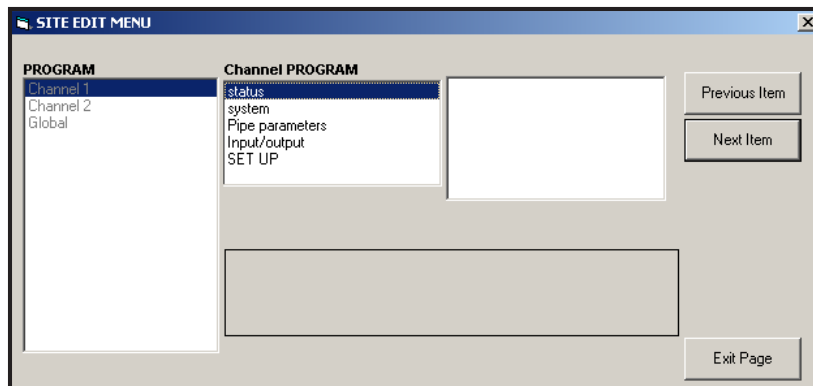

Figure 41: *Site Edit Menu* Window
- To enter data into the user program, double-click on the *Site Edit Menu*. The window appears similar to *Figure 41* below.
- To enter the Channel 1, Channel 2, or Global menu, highlight and double-click on the desired menu in the left pane. For example, clicking on Channel 1 in *Figure 41* above opens the list of options shown in the center pane.
PanaView returns to the Channel PROGRAM menu (see *Figure 41* on page 91). Proceed to the System option.
- If you are not using MASS FLOW, PanaView returns to the Channel PROGRAM window shown in *Figure 41* on *page 91*. Proceed to the Pipe option.
PanaView returns to the Channel PROGRAM window shown in *Figure 41 on page 91*. Proceed to the Pipe option on the next page.